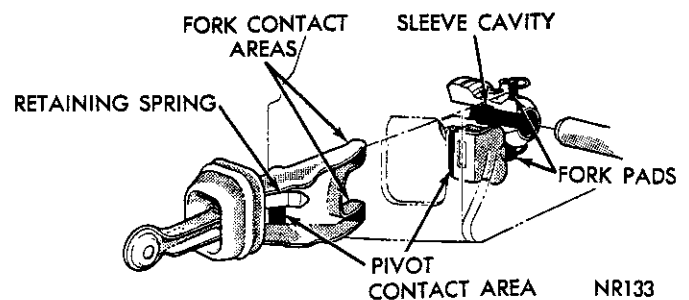

Fig. 11—Clutch Lubrication Points
(6) Fill cavity of bearing sleeve with Lubricant. Also apply a film of lubricant to release fork pads of sleeve (Fig. 11).
(7) Position release bearing and sleeve assembly in clutch housing as far forward as possible.
(8) Lubricate fork fingers and retaining spring, at pivot contact area (Fig. 11) with a film of grease.
sides of fork contact areas, pivot contact area, edge of pivot, also the cavity inside clutch sleeve and the fork pads (Fig. 11).
(1) Fill cavity of bearing sleeve with the previously recommended Automotive Multi-Purpose Grease, NLGI grade 2 EP, (Fig. 11).
(2) Also, apply a film of this same lubricant to release fork pads of sleeve.
(3) A film of the same type lubricant should be applied to the pivot contact area of fork retaining spring and contact areas of fork fingers.